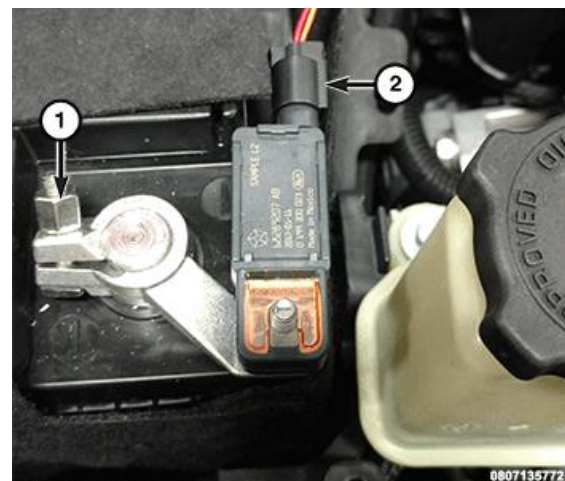

Figure 2 – Battery Isolated
5. (Figure 2) shows the battery system completely isolated and leaving the battery clamp (1) still in place and the IBS (2) still connected.